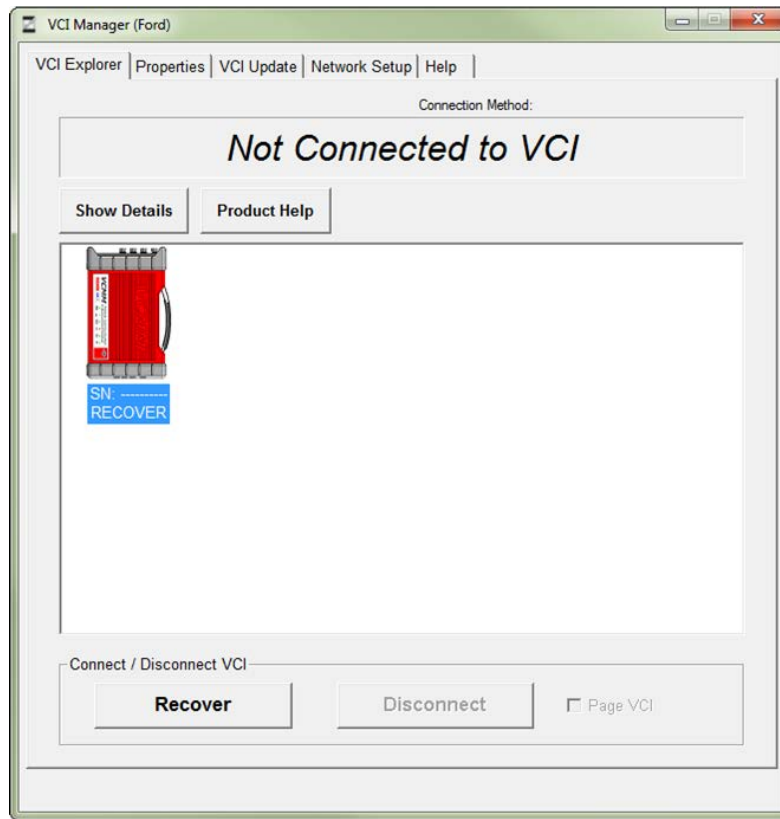

Figure 5
6. Click on the VCMM icon to select it (see Figure 5).